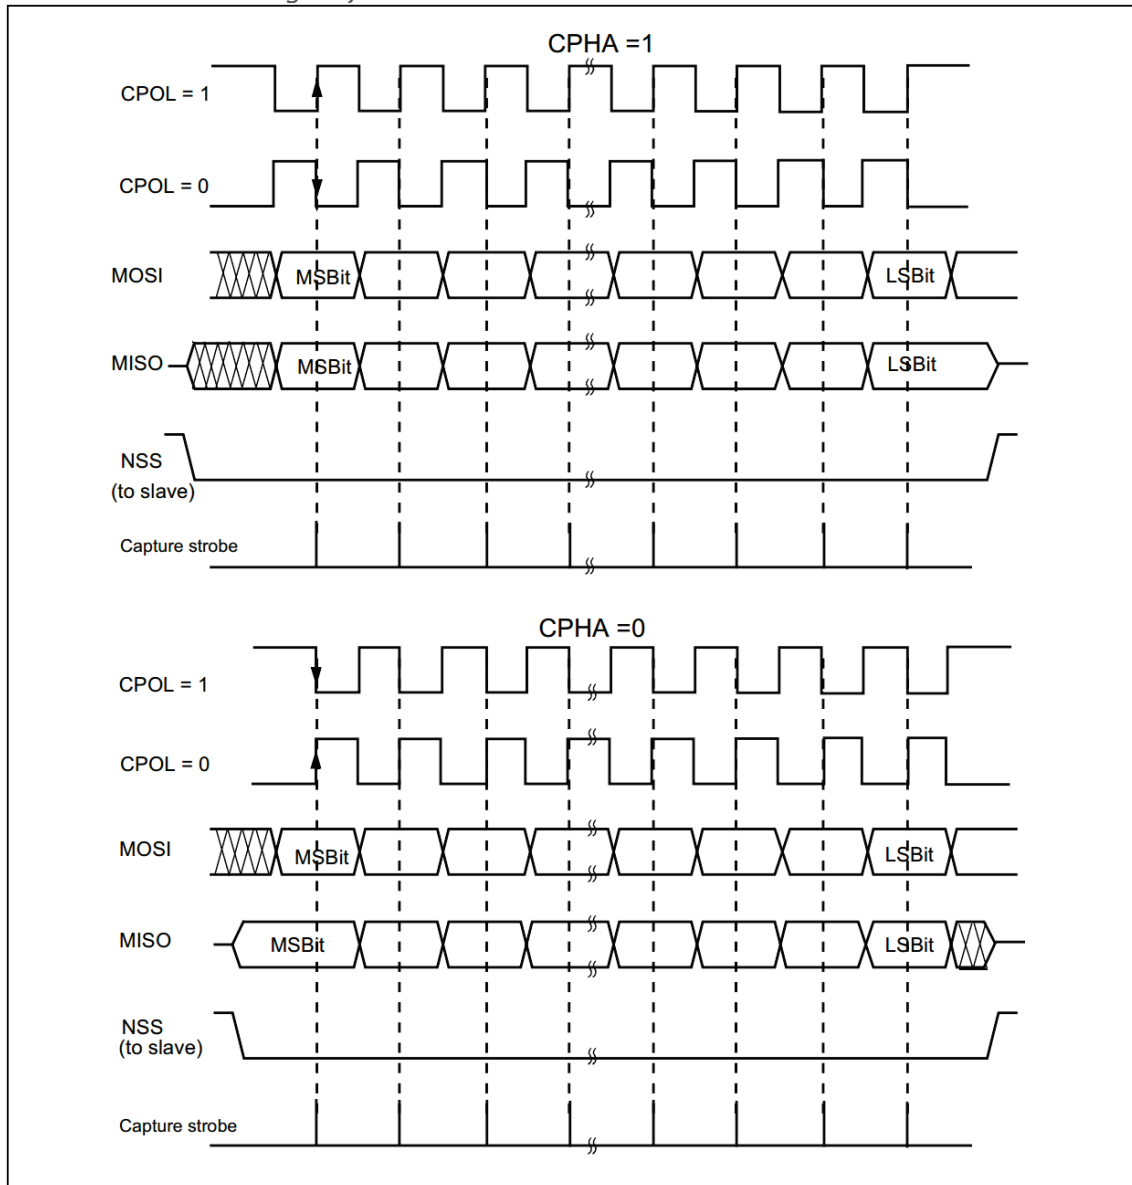

Figure 212 Data Clock Timing Diagram
Figure 212 shows the four CPHA and CPOL bit combinations for SPI transfers. This figure can be interpreted as a master or slave timing diagram with the SCK pin, MISO pin, and MOSI pin of the master and slave devices directly connected.
2. Select the CPOL and CPHA bits to define the phase relationship between the data transfer and the serial clock (see Figure 212).